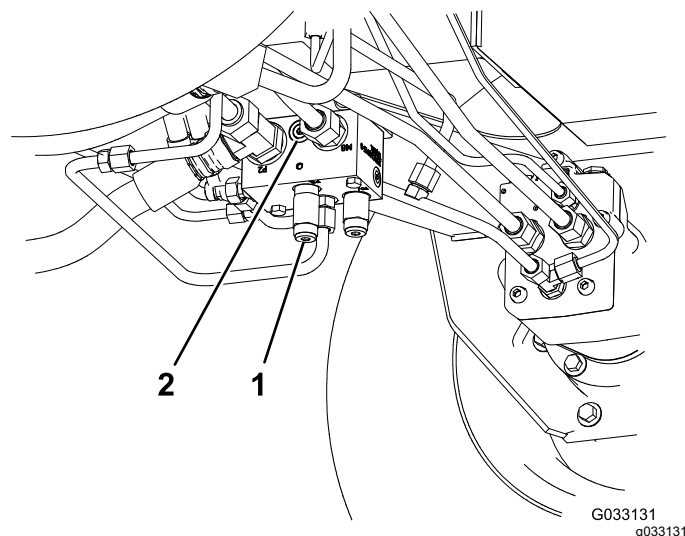

Figure 62
- 95-0985, coupler fitting (2)
- 340-77, hydraulic fitting (2)
- Install a diagnostic fitting in the unmarked port located between ports M8 and P2 on the rear traction manifold (Figure 62).